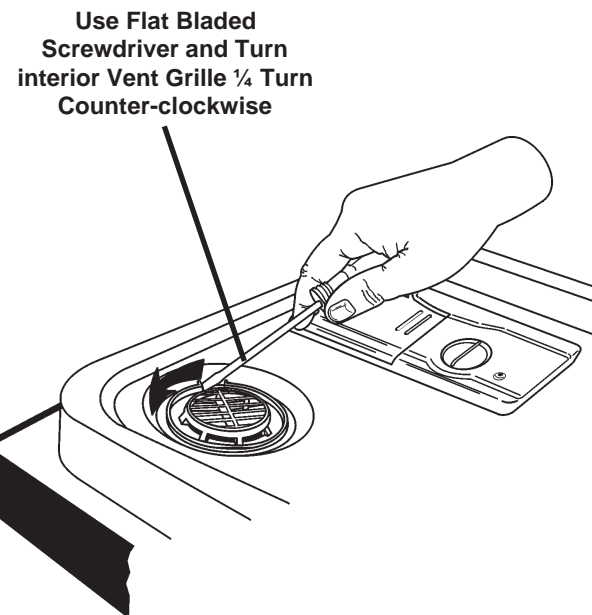

Fig. 3-6
1. Remove the six (6) screws securing the control panel to the door frame.
4. Using a flat bladed screwdriver in the slot provided at the bottom of the interior vent grille, turn the vent grille counterclockwise ¼ turn and remove the grille. (Fig. 3-6)